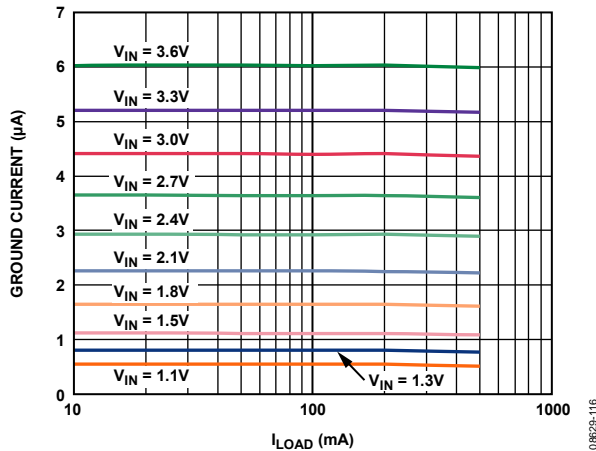

Figure 16. Ground Current vs. Load Current, Different Input Voltages
The major source for ground current in the ADP194 is the 4 M $\Omega$  pull-down resistor on the enable (EN) pin. Figure 16 shows typical ground current when  $V_{EN} = V_{IN}$  and  $V_{IN}$  varies from 1.1 V to 3.6 V.